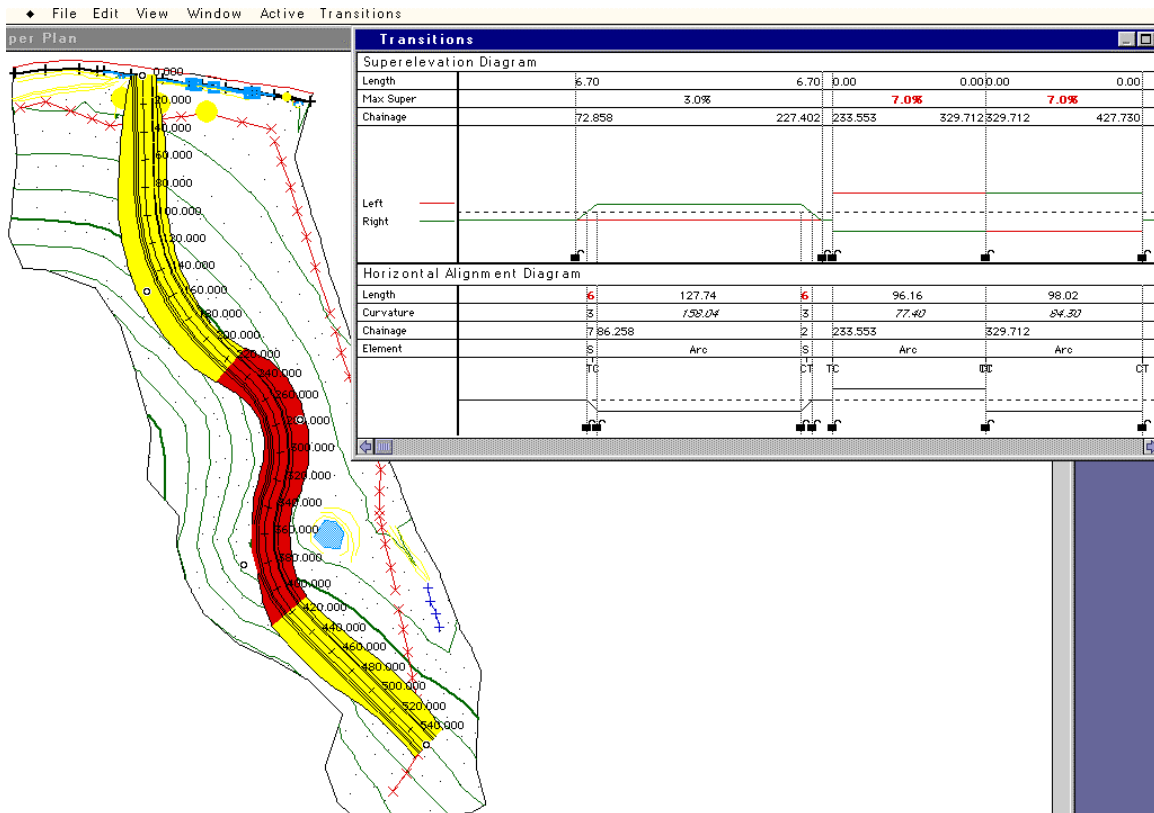

Figure 29: Plan View and the Transitions Window
Then, select Window/Transitions, under the transitions menu select “options,” and then check both boxes. You may or may not get a warning message indicating that the “straight is too short”. For now, ignore this message and simply press o.k. Then, reposition the transitions window (using the lower right hand corner) to obtain a screen comparable to Figure 29, with the transitions window to the right and the plan view to the left.
In Figure 29, the 7% shown in red is the rate of superelevation (e) and the line that reads “Curvature” is the radius of curvature, or R , for each tangent section. For example, for the rightmost column, the current value of R is 84.3 and the current value of e is 0.07. If you go to Transitions/Options, you will see that the current design speed is 60 km/h. If you go to Transitions/Superelevation, you will see that at 60 km/h, the coefficient of side friction F_s , which is shown in this software package as f , is 0.16. Note that you may have a different value of R depending on how you placed your road.
10. Is your actual radius of curvature (shown in Figure 29 as 84.30) larger than the computed radius of curvature in question (9)?
11. Suppose all horizontal intersection points are fixed except the third intersection point. Write down the actual value of R (shown in Figure 29 as 84.30) but your value may be different.
the “84.30” in Figure 29), can you predict when the roadway section will change from red to yellow?